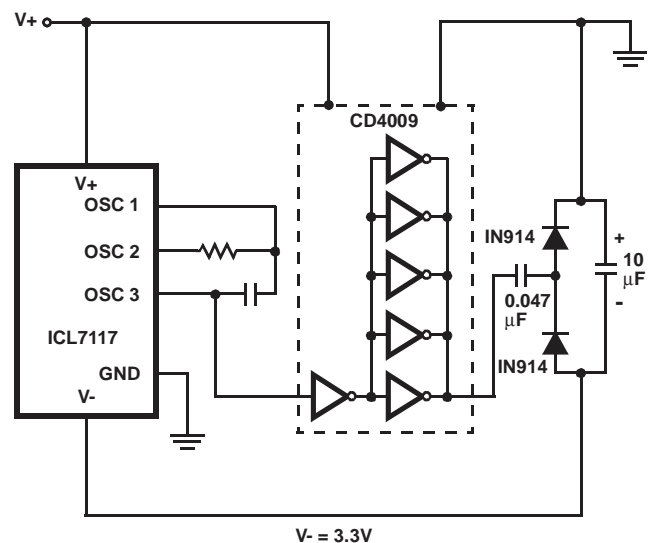

FIGURE 10. GENERATING NEGATIVE SUPPLY FROM +5V
3. The ICL7117 is designed to work from  $\pm 5$ V supplies. However, if a negative supply is not available, it can be generated from the clock output with 2 diodes, 2 capacitors, and an inexpensive IC. Figure 10 shows this application. See ICL7660 data sheet for an alternative.